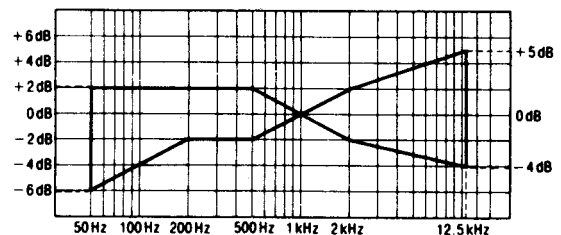

Fig. 9
5. Repeat steps 3 and 4 above for Cr₂O₃ blank test tape (QZZCRX) and Metal blank test tape (QZZCRZ), in these cases raising the upper end of the test signal frequency range to 12.5kHz. Verify that the signal levels at the test frequencies fall in the ranges specified in Fig. 9 with respect to the reference signal level.